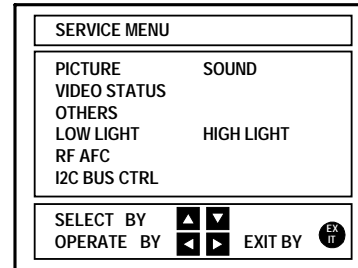

Fig.1
- 2) The SERVICE MENU screen of Fig.1 is displayed.
Verify what to set in the SERVICE MENU, and set whatever is necessary. (Fig.1) Refer to the SERVICE ADJUSTMENT for setting.